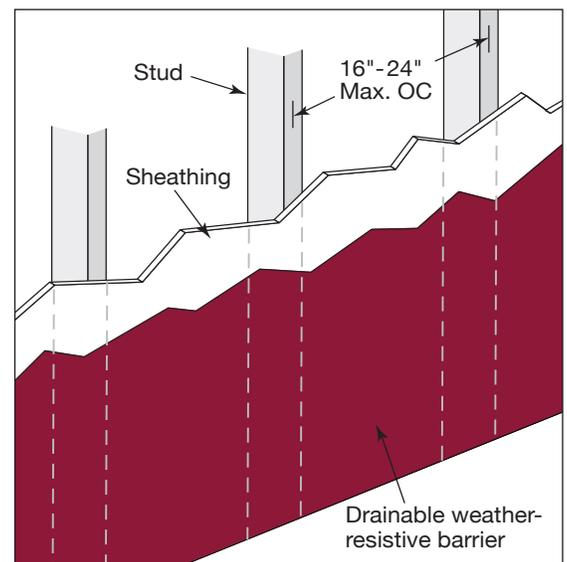

Fig. 2
- Always install a drainable weather-resistive barrier to allow proper water management according to local building code requirements (**Fig. 2**)